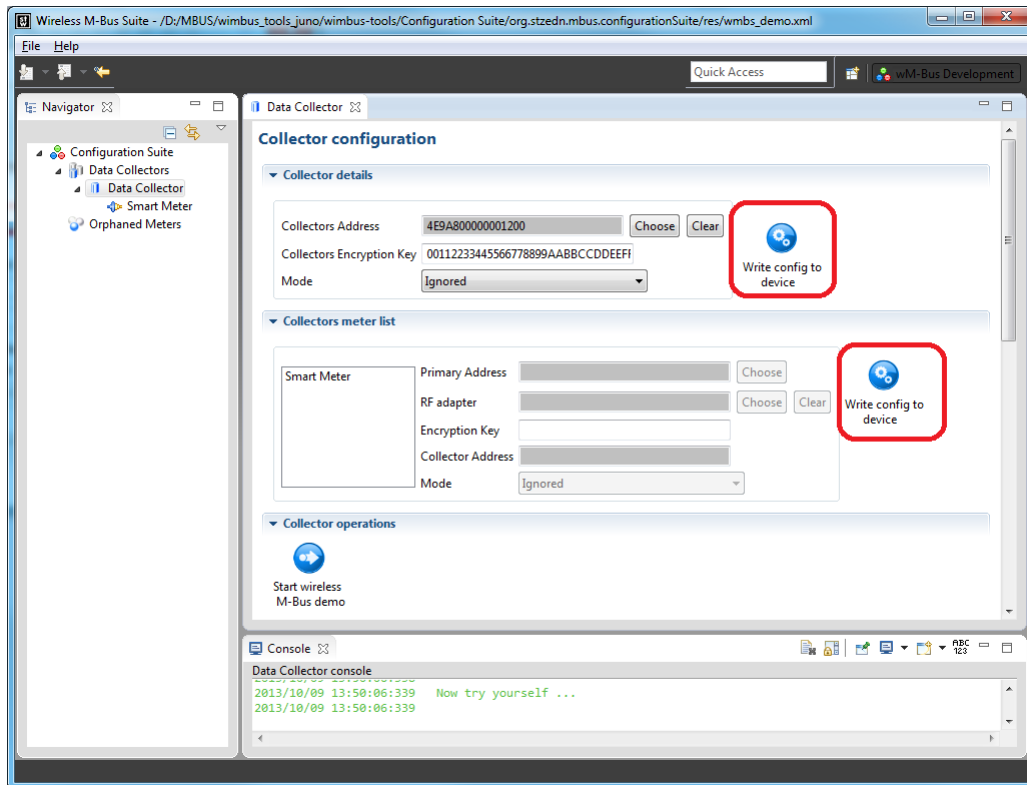

Figure 3.18: Write config to device
3. Double click on the 'Data Collector' device in the device tree. Press on the red framed button 'Write config to device' or 'Start wireless M-Bus demo' (refer figure 3.18).